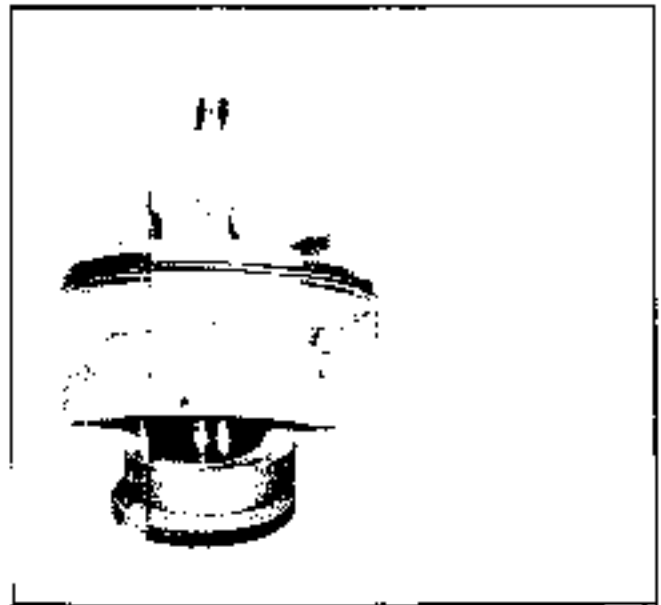

Fig. 9-77 Pressure Plate and Rotor Ring Removed
9. Remove pressure plate, pump ring and vanes, being careful not to drop parts (Fig. 9-77).